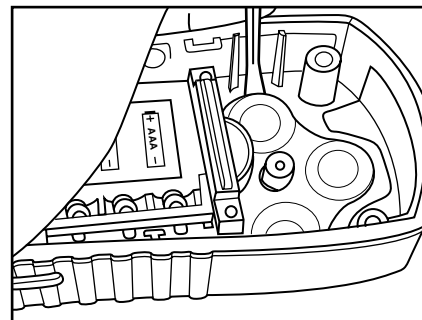

Fig. 39
5. Use a fine-tipped screwdriver to pull up edge of the filter (Fig. 39).